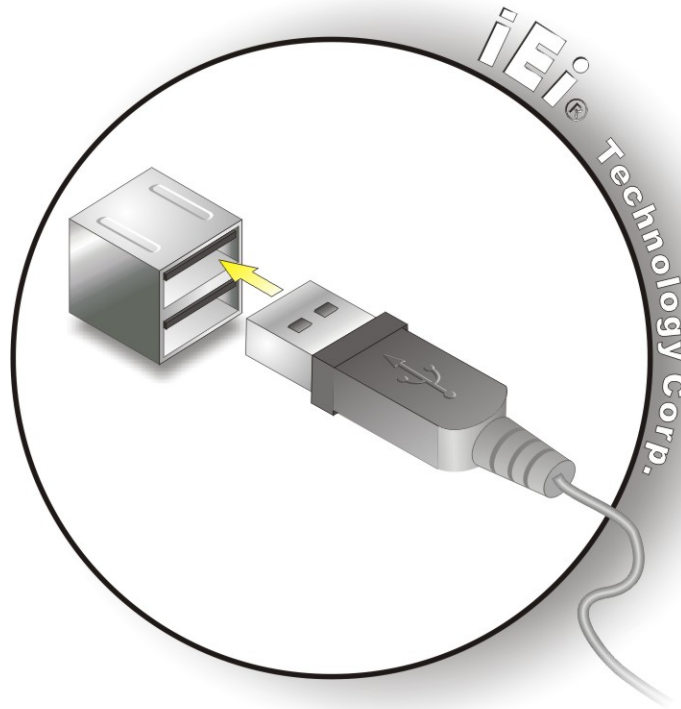

Figure 5-17: USB Connector
- Step 2:** Insert a USB Series "A" plug. Insert the USB Series "A" plug of a device into the USB Series "A" receptacle on the external peripheral interface. See **Figure 5-17**.